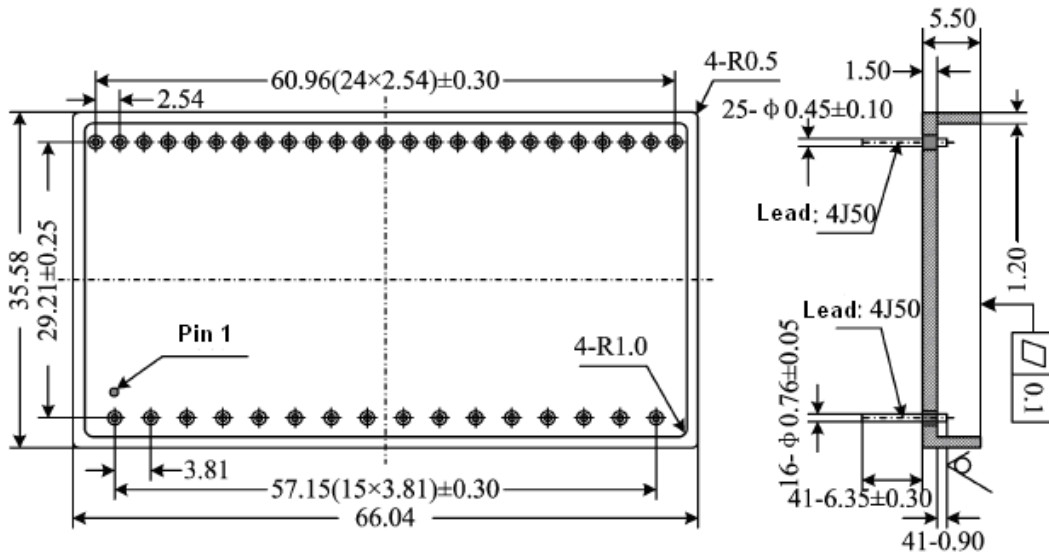

Fig 4 Package Specifications
8. Package Specifications (Fig 4)
Outline of package is shown in Figure 4: